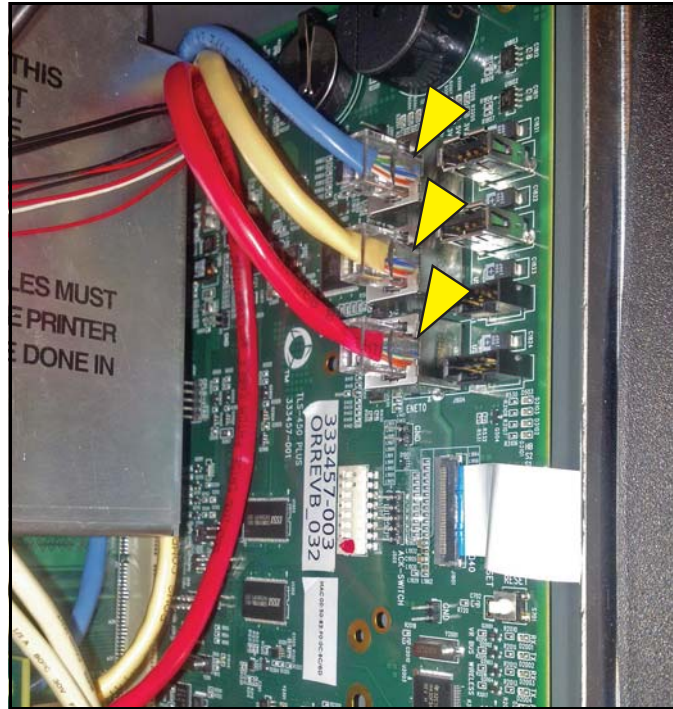

Figure 17. Connect Ethernet Cables
4. Reconnect the Ethernet Interface module's three cables to the CPU board's Ethernet connectors. Blue cable (E 3) to top connector, yellow (E 2) to next down and red (E 1) to lower connector - see Figure 17).